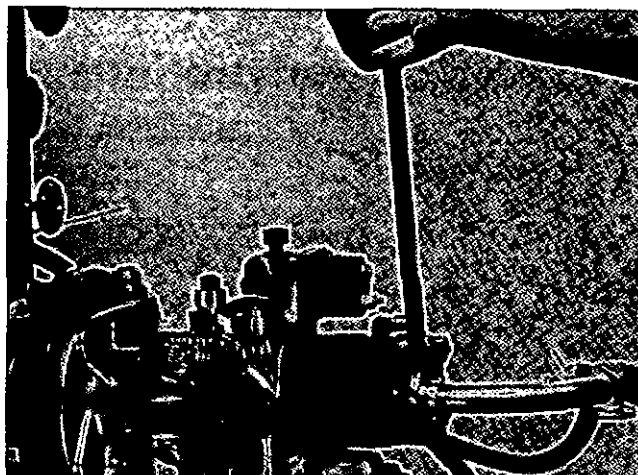

Fig. 10-5, (F5102). Connect the suction line of the gear pump.
6. Put some clean test oil into the inlet hole of the gear pump so the pump suction will start faster. Connect the suction line, Fig. 10-5.